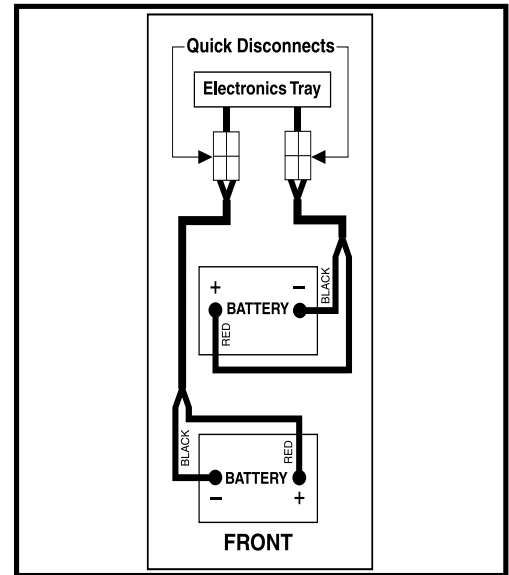

Figure 34. Battery Wiring Diagram
9. Connect the wiring harness to the new batteries. See figure 34.